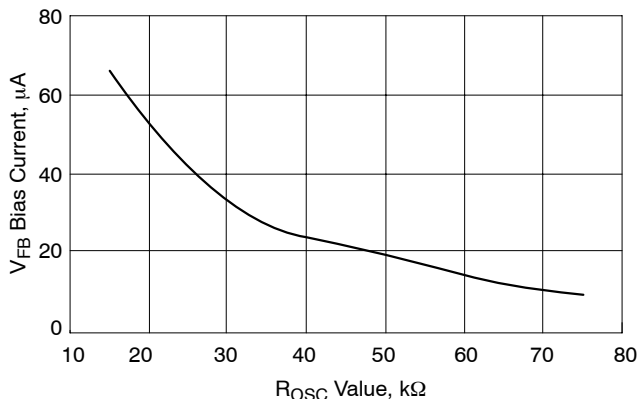

Figure 4. VFB Bias Current vs. ROSC Value
2. The V_{FB} Bias Current changes with the value of R_{OSC} per Figure 4.
To set the no-load positioning a resistor (R9) is placed between the output voltage and V_{FB} pin. The V_{FB} bias current will develop a voltage across the resistor to decrease the output voltage. The V_{FB} bias current is dependent on the value of ROSC. See Figure 4 on the datasheet.